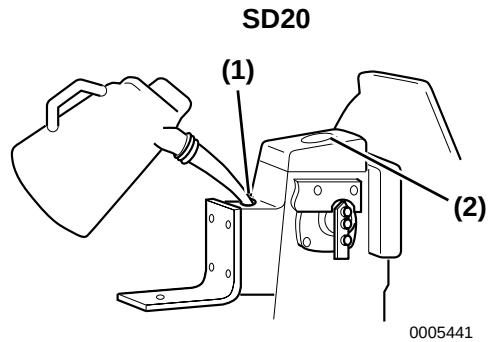

Figure 3
2. Check the amount of lubricating oil by inserting the dipstick as far as possible. Do not screw the dipstick in **(Figure 3, (1))**. The oil level should reach the upper mark on the dipstick **(Figure 3, (2))**.